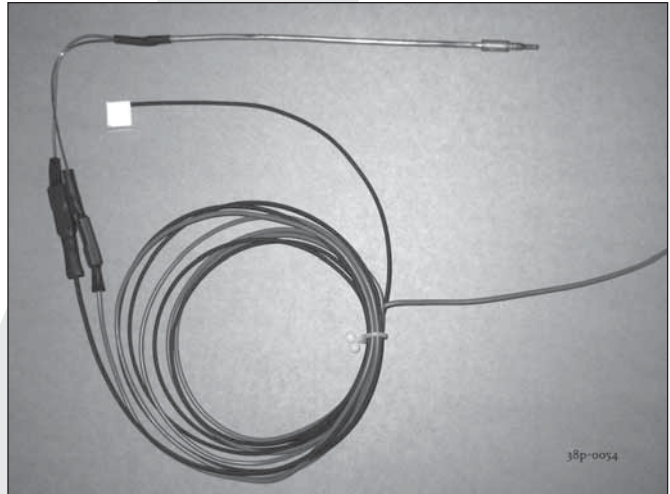

fig. 3b
**!Caution** The red wire of thermocouple 2 must remain connected to the gas control. Fig. 3b shows how the wires are connected to the thermocouple.